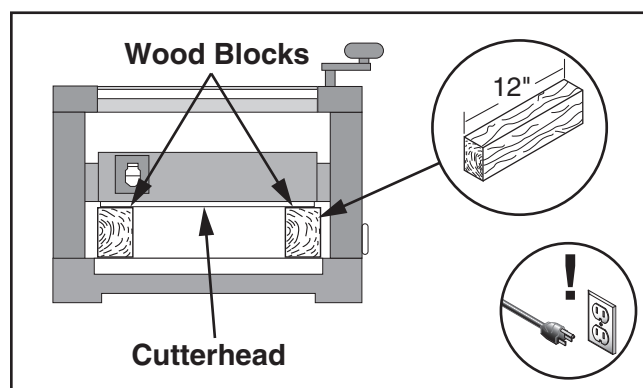

Figure 45. Checking cutterhead parallelism.
3. Place both pieces of stock on either side of table, and lower headstock until cutterhead just touches (see **Figure 45**).